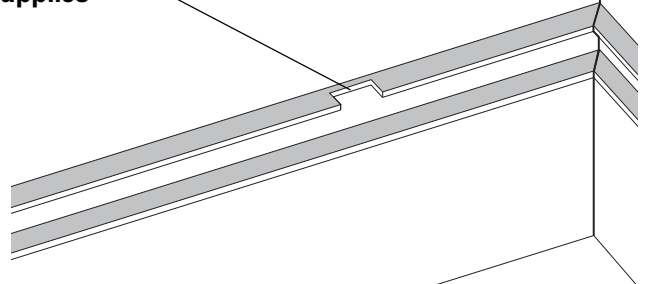

Fig. 2
- 2 Where trunking is being used, notch or drill cable entrances/exits as close as possible to handsets, power supplies, etc, for the neatest installation (Fig. 2,3).